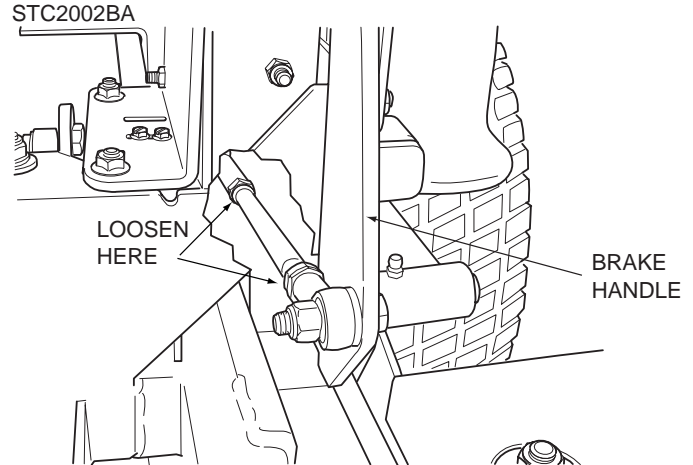
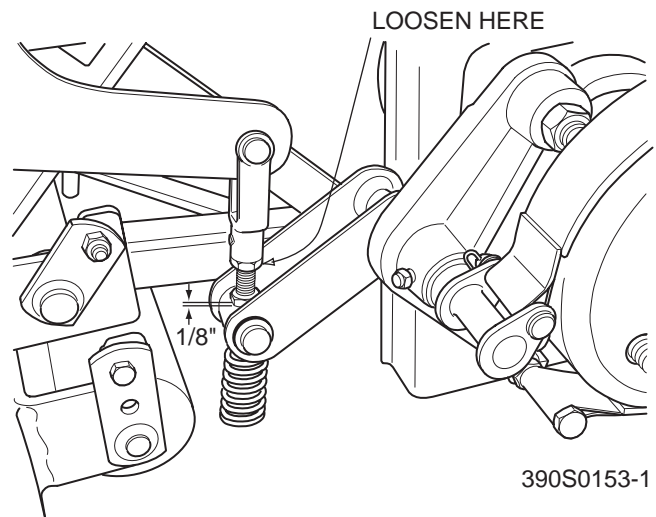

Figure 6-1. Brake Adjustment
Figure 6-2. Brake Rod Adjustment
2. With the brake in the engaged position, check the distance between the lower nut on the brake actuator rod and the brake actuator lever on the LH side of the machine. The distance should be 1/8" (See Figure 6-2).
3. If the distance is not at the specified measurement, loosen the jam nut at the clevis on the top of the brake actuator rod (See Figure 6-2).
4. Turn the bolt at the bottom of the brake actuator lever until the 1/8" measurement is achieved and tighten the jam nut at the clevis on the brake actuator rod. (See Figure 6-2). If the 1/8" measurement can not be achieved by adjusting the brake actuator rod, adjust the brake control rod. Adjust by loosening the jam nuts at both ends of the brake control rod and turning the rod until the proper distance is achieved. (See Figure 6-1)